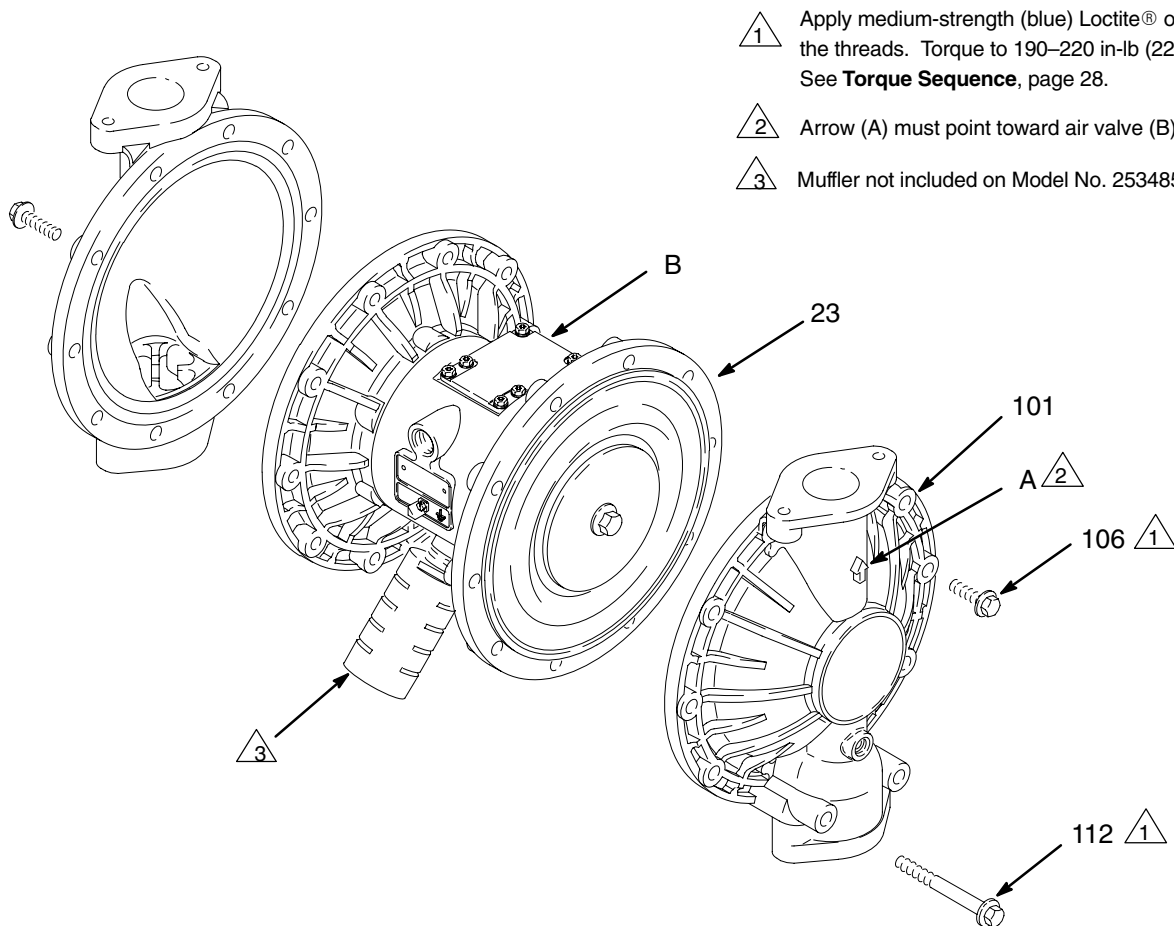

Fig. 11
3. Using a 13 mm socket wrench, remove the screws (106 and 112) holding the fluid covers (101) to the air covers (23). Pull the fluid covers (101) off the pump. See Fig. 11.
- Install the o-ring (108\*) on the shaft bolt (107).
- Install the fluid side diaphragm plate (105) on the bolt so the rounded side faces in, toward the diaphragm (401).
- On PTFE models only*, install the PTFE diaphragm (403\*). Make certain the side marked AIR SIDE faces the center housing (1).
- Install the diaphragm (401\*) on the bolt. Make certain the side marked AIR SIDE faces the center housing (1).
- Install the air side diaphragm plate (104) so the recessed side faces the diaphragm (401).
- Apply medium-strength (blue) Loctite® or equivalent to the bolt (107) threads. Screw the bolt (107) into the shaft (24) hand tight.
- For overmolded diaphragms:* Assemble the air side plate (104) onto the diaphragm (403). The wide, radiused side of the plate must face the diaphragm. Apply medium-strength (blue) Loctite or equivalent to the threads of the diaphragm assembly. Screw the assembly into the shaft (24) hand tight.
- Grease the length and ends of the diaphragm shaft (24), and slide it through the housing (1).
- Hold one shaft bolt (107) with a wrench and torque the other bolt to 20–25 ft-lb (27–34 N•m) at 100 rpm maximum. *NOTE: This step does not apply to pumps with overmolded diaphragms.*
- Align the fluid covers (101) and the center housing (1) so the arrows (A) on the covers face the same direction as the air valve (B). Apply medium-strength (blue) Loctite® or equivalent to the threads of screws (106) and (112), and secure the covers with the screws handtight. Install the longer screws (112) in the bottom holes of the covers. See Fig. 11. Using a 13 mm socket wrench, torque the screws oppositely and evenly to 190–220 in-lb (22–25 N•m). See **Torque Sequence**, page 28.